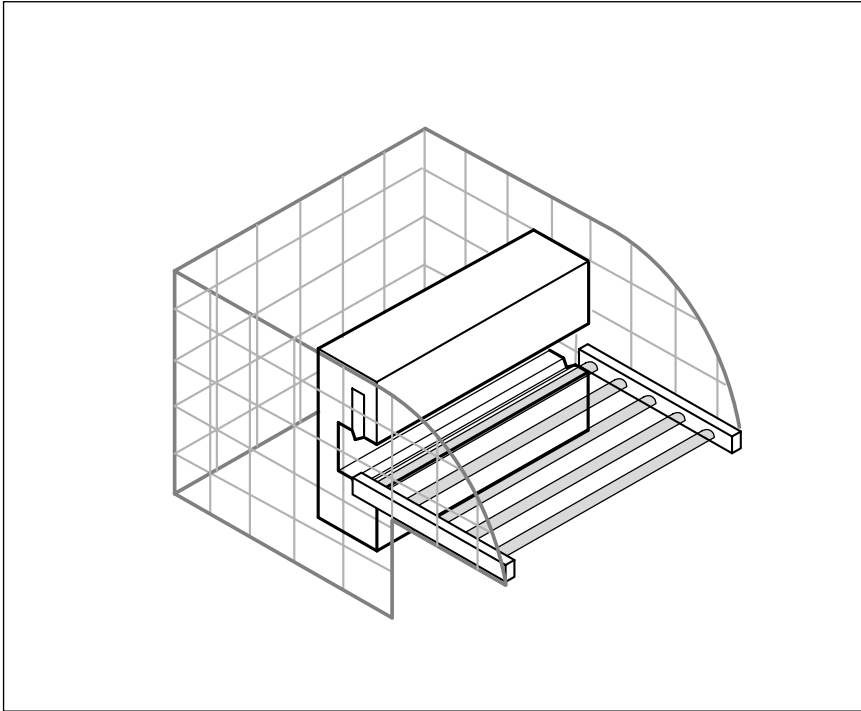

Fig. 4: Access guarding with 5-beam MSL multi-beam photoelectric safety switch
- ▶ Hazardous zone guarding (*fig. 4*)